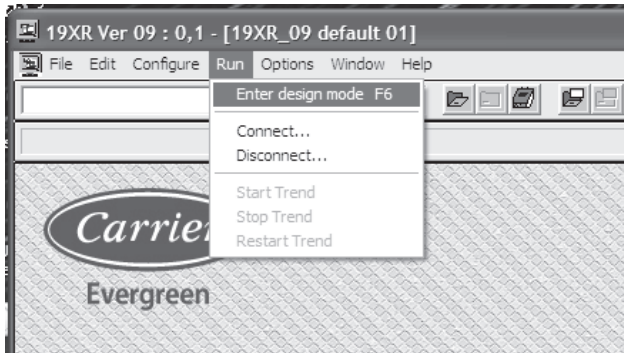

Fig. 17 — Select Design Mode
17. After the default workspace of the chiller version to be cloned is opened, select the “Run” tab at the top of the screen, then “Enter design mode” (Fig. 17).